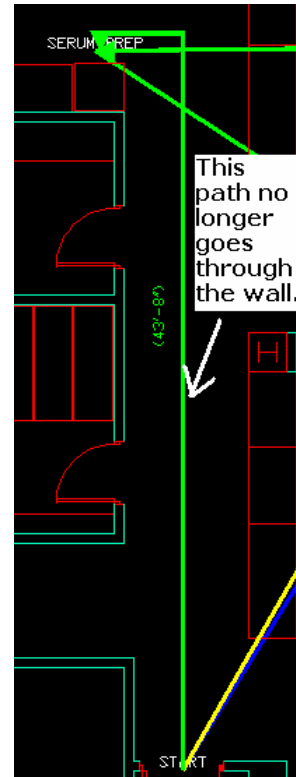

Figure 8
STEP 9: The original path will now disappear and you will be prompted to enter a path from START to SERUM_PREP. Simply pick points starting from where the path originated, around the wall, and then finally to SERUM_PREP. (See Figure 8) When you pick your last point at SERUM_PREP you can press **Enter** on the keyboard, or click your right mouse button. A WPP Alert window will show up. Click "OK". You will then either be returned to the Paths tab in the WPP application, or back to the AutoCAD drawing; depending on which method of editing you are using.